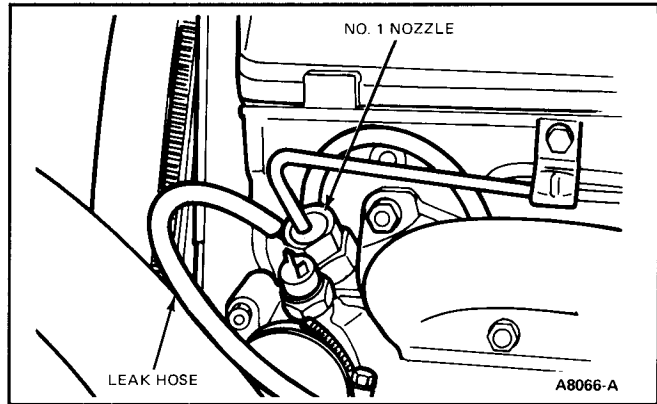

FIG. 22 Injection Pump Leak Hose
14. Disconnect No. 1 nozzle to injection pump leak hose (Fig. 22).
11. Connect No. 1 nozzle to injection pump leak hose (Fig. 22).